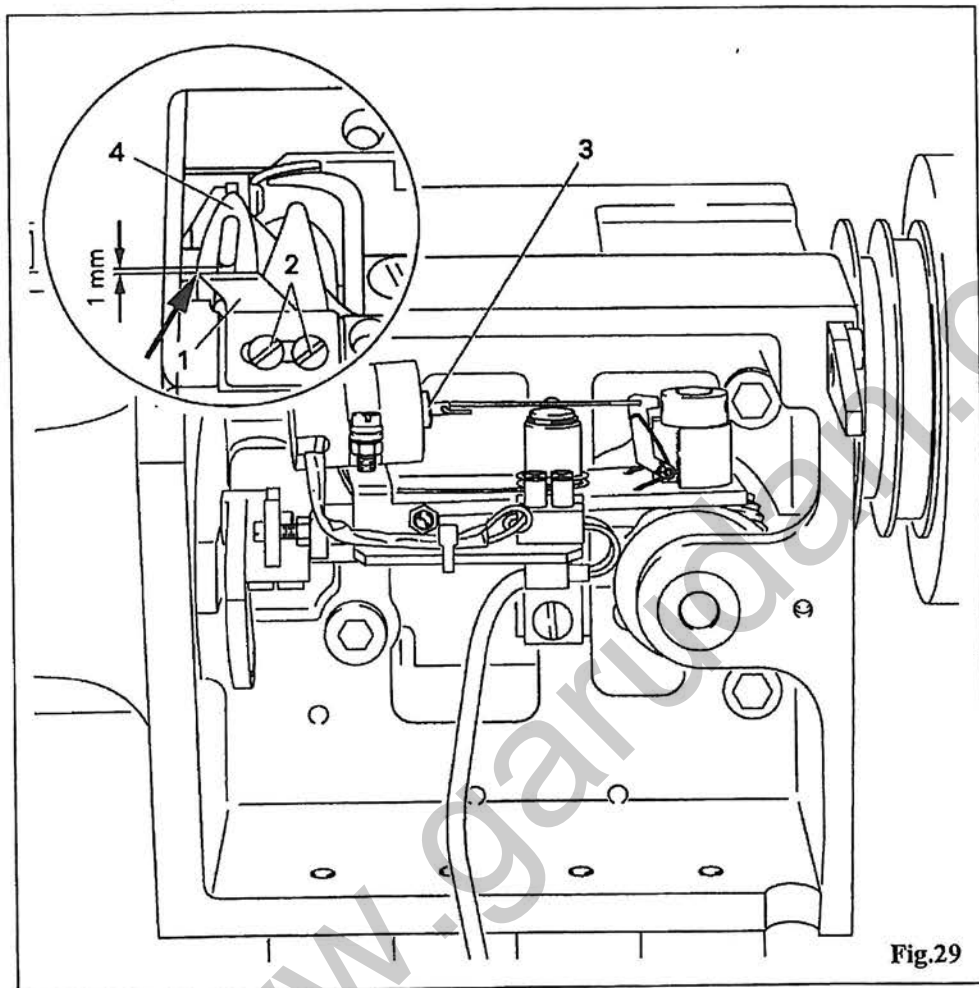

Fig.29
- ① Set the needle bar at b. d. c.
- ② Operate solenoid core 1 by hand.
- ③ Turn the balance wheel farther (sewing direction) until the end of hook gib 2, viewed in sewing direction, is 2 mm behind the centre of bobbin case position finger 3.
- ④ Check according to requirement and re-adjust control cam if necessary. See Chapter (1) Control cam (preliminary adjustment)
(9) Knife(Fig.29)